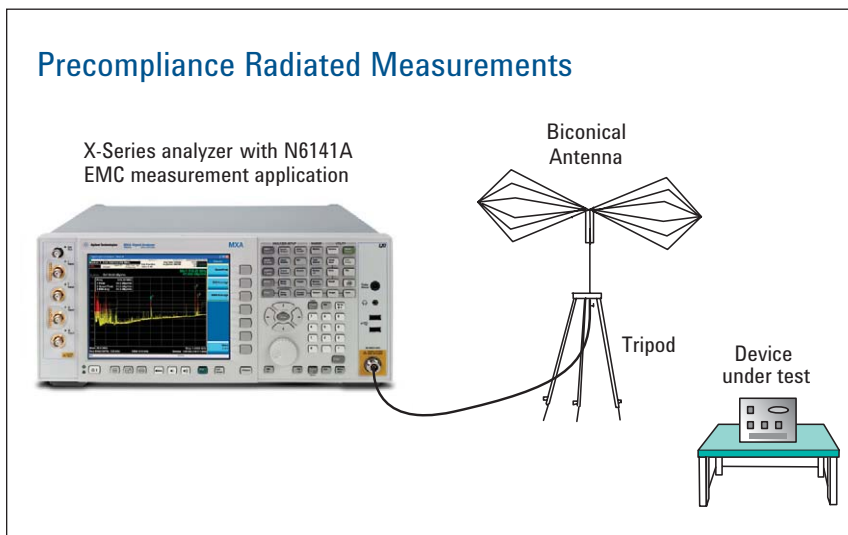

Figure 10. Radiated emissions test setup
1. Arrange the antenna, DUT and signal analyzer as shown in Figure 10. Separate the antenna and the EUT as specified by the regulator agency requirements. If space is limited, then the antenna can be moved closer to the DUT and you can edit the limits to reflect the new position. For example, if the antenna is moved from 10 meters to 3 meters, then the amplitude must be adjusted by 10.45 dB. It is important that the antenna is not placed in the near field of the radiating device which is $\lambda/2\pi$ or 15.9 MHz for 3 meters. Most commercial radiated emissions start at 30 MHz.